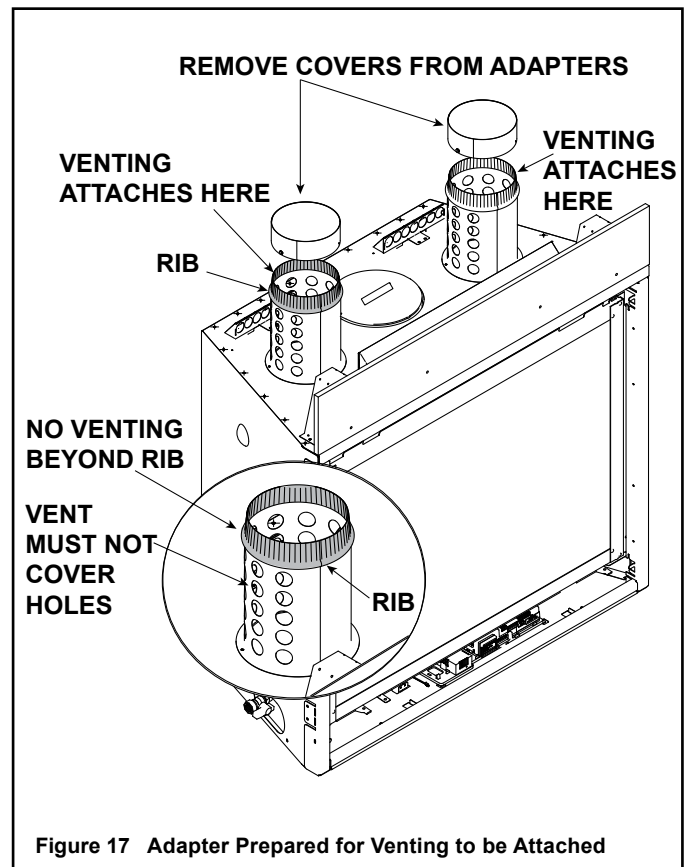

Figure 17 Adapter Prepared for Venting to be Attached
- Remove cap from the Passive Heat adapter and discard the cap. The venting for the Heat-Zone-Gas kit will attach directly on top of the Passive heat adapter. See Figure 17.
- Remove covers from the Passive Heat adapters and discard the covers. The venting for the Heat-Out-Gas kit will attach directly on top of the Passive heat adapter. See Figure 17.